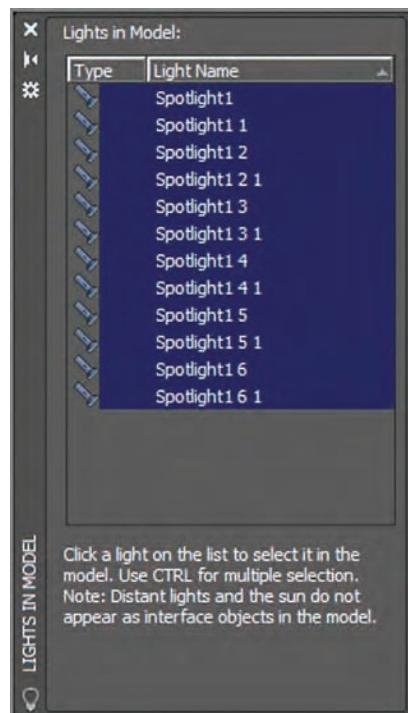

FIGURE 18.10 Selecting lights in the Lights In Model palette
- 14.** Click the Lights panel menu (a small icon in the lower-right corner of the Lights panel) to open the Lights In Model palette (see Figure 18.10). Select the first spotlight in the list, hold Shift, and select the last spotlight in the list to select them all.